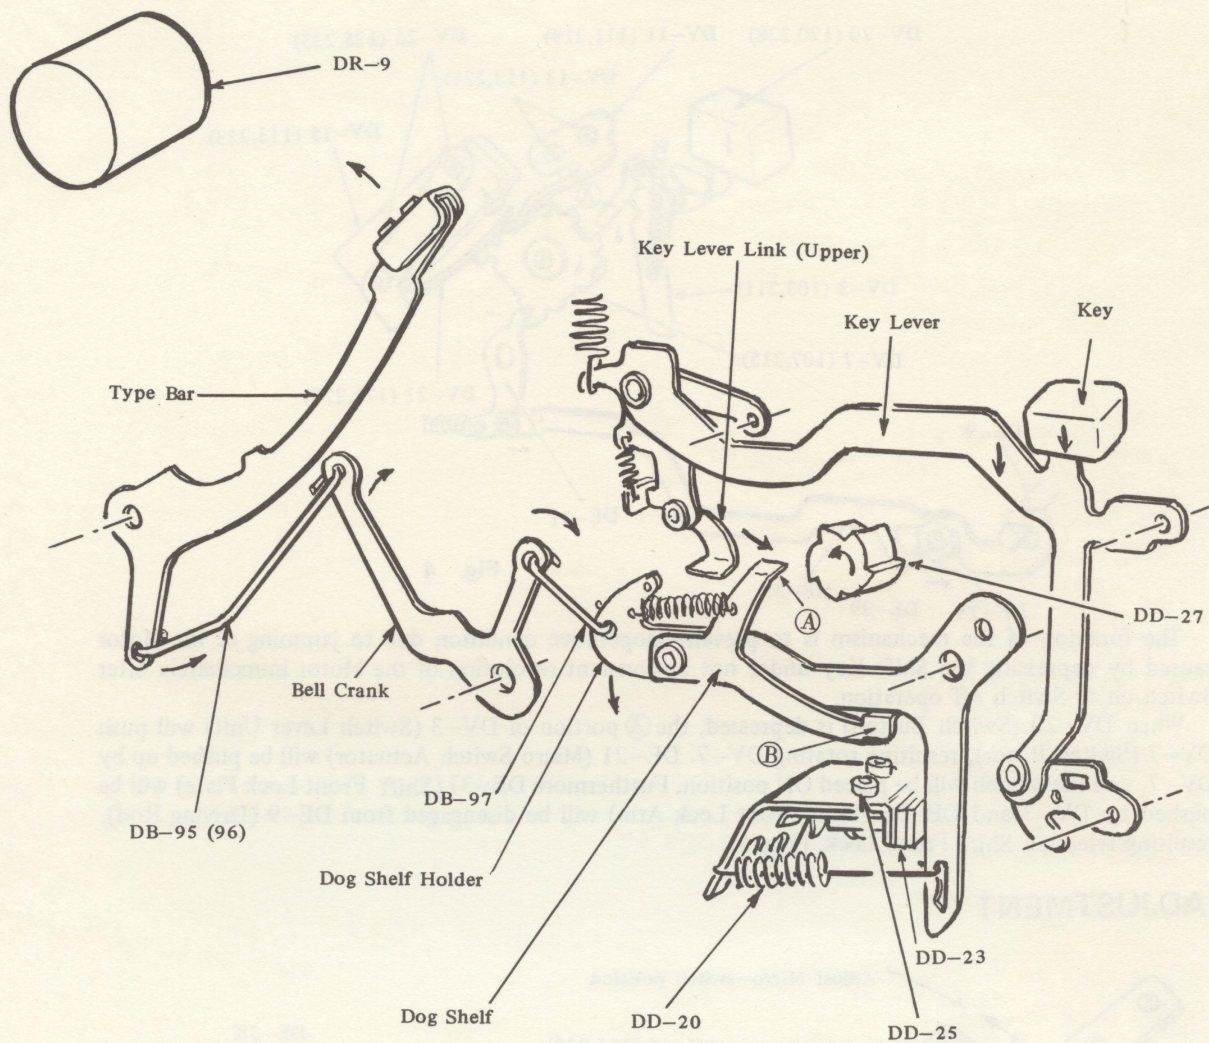

Fig. 7
Dog Shelf engaged with DD-27 will be disengaged by lowering Dog Shelf Holder, resulting the (B) portion of Dog Shelf touches against DD-25 (Adjusting Screw). After disengagement of Dog Shelf from DD-27, the entire Dog Shelf Holder will be returned to the original position by the action of DD-20 (Spring) and a cycle of printing is accomplished. (Fig. 7)